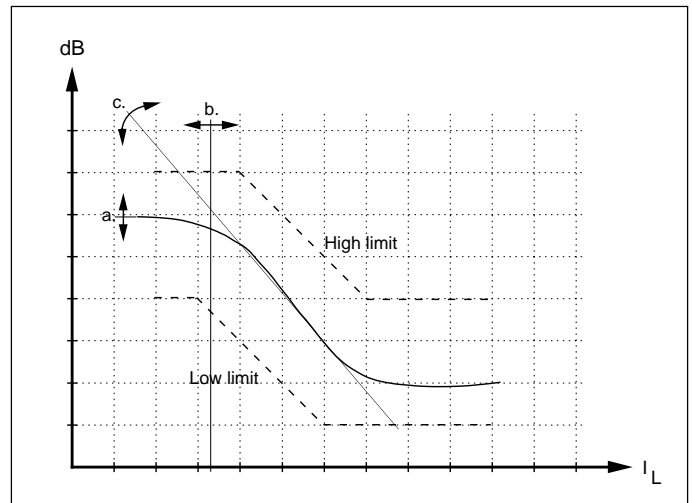

Figure 13. Gain regulation principle.
3. Set the attac point where the line length regulation is supposed to cut in (R1 and R2). Note that in some countries the line length regulation is not allowed. In most cases the end result is better and more readily achieved by using the line length regulation (line loss compensation) than without. See fig. 13.
There is a fixed default compensation on the chip that can be adjusted or set to constant high or low gain mode. The input impedance at the gain regulation pin 6 is  $5.5k \pm 20\%$ . The default regulation pattern is valid when the input is left open. Fig.13 shows a typical transmitter or